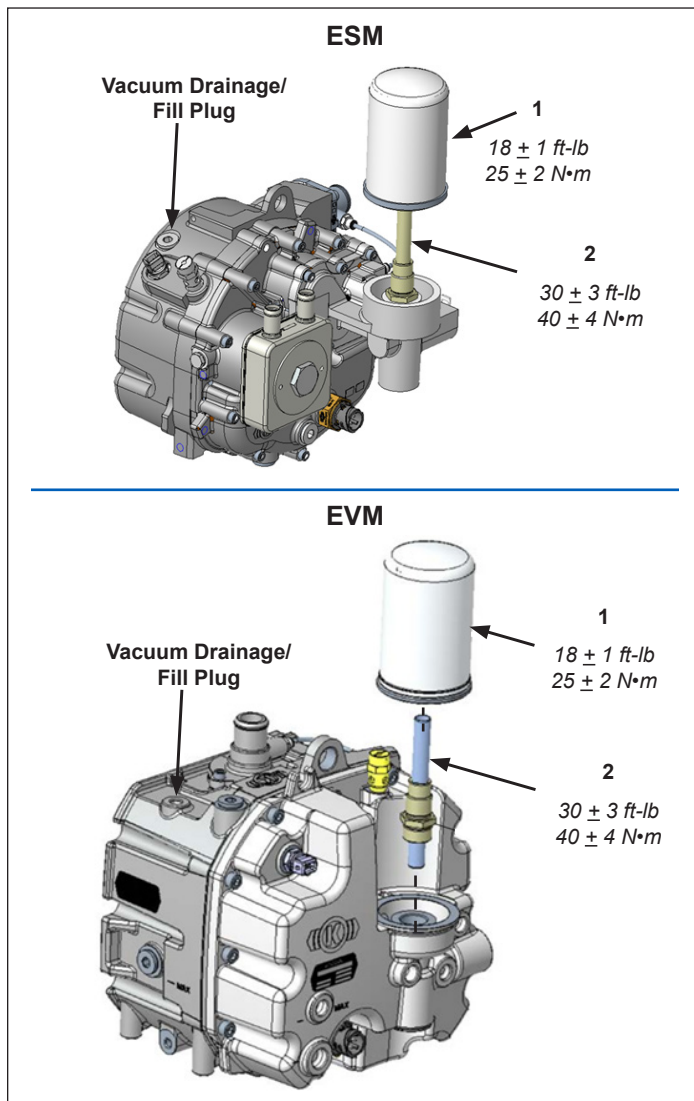

Figure 5 – Oil Separator Cartridge Kit and Tube Kit Contents - ESM and EVM
2. Depressurize the compressor by partially unscrewing the vacuum drainage/fill plug (one turn). Wait until the pressure is entirely vented. Retain the insulation and the vacuum drainage/fill plug. See Figure 5.
Follow these steps to install the new tube (K263404) and change the cartridge (K195909) for the ESM or EVM. Refer to Table 4 and see Figure 5.